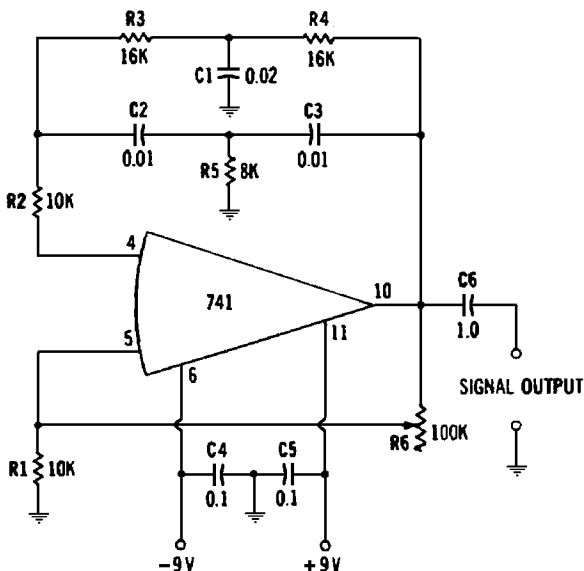
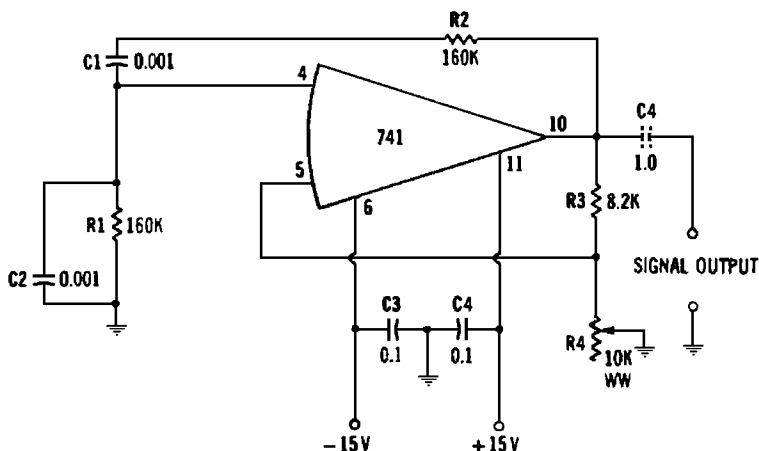

Fig. 3-10. Twin-T audio-oscillator.
Fig. 3-11. Wien-bridge audio oscillator.
6. Capacitors in frequency-determining networks—as in Figs. 3-10.
Fig. 3-10 shows the circuit of a low-distortion, 1-kHz sine-wave oscillator employing a twin-T RC null network (C1, C2, C3, R3, R4, R5) in the negative-feedback loop as the frequency-determining sec-
The reader may use these relationships to select resistors and capacitors for other frequencies. The values given in Fig. 3-10 actually result in a frequency of 994.7 Hz. For exactly 1000 Hz, trim resistors R3 and R4 to 15,915 ohms, and R5 to 7957 ohms. (It is easier to prune resistance than high capacitance.)
The low-distortion, 1-kHz sine-wave oscillator shown in Fig. 3-11 employs only four components ( $C_1$ ,  $C_2$ ,  $R_1$ ,  $R_2$ ) in its RC-type frequency-determining network, compared with the previous oscillator (Fig. 3-10) which requires six. In Fig. 3-11,  $C_1$ ,  $C_2$ ,  $R_1$ , and  $R_2$  form a Wien bridge in which  $C_1 = C_2$ , and  $R_1 = R_2$ . The oscillation frequency then is:
The reader may use these relationships to select resistors and capacitors for other frequencies. The values given in Fig. 3-11 actually result in a frequency of 994.7 Hz. For exactly 1000 Hz, trim resistors  $R_1$  and  $R_2$  to exactly 159,155 ohms. (It is easier to prune resistance than high capacitance.) Output capacitance  $C_4$  is needed only for strict ac coupling.